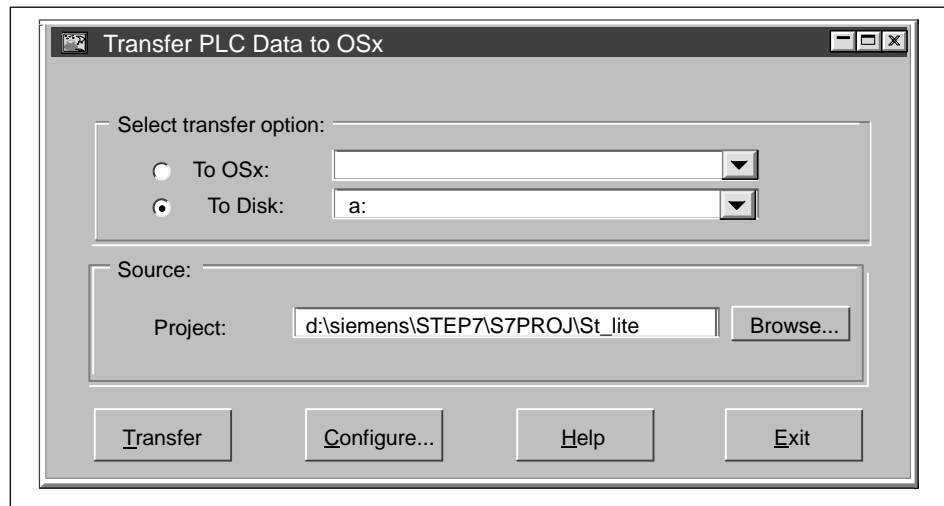

Figure 2-20 Transfer Dialog Box
4. Click **OK**. The path appears in the Transfer dialog box (Figure 2-20).